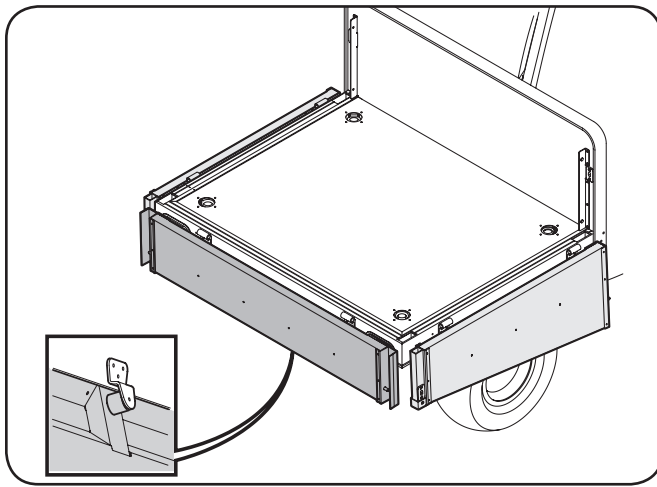

Figure 4-3
2. Secure the tailgate and sides in the down position with pin and socket. See Figure 4-3.